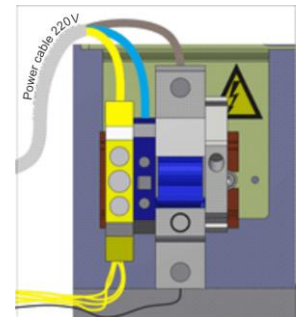
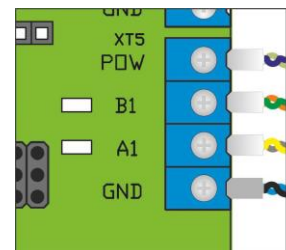

Fig.22– Connection of power supply cable
Fig.23 – Connection the communication cable with control panel to terminals
- 6 install a reader if needed (see Fig.23);
- a) Power supply cable ~220 V to be connected (Fig.22):
- Neutral (N) to be connected to terminal ~220V(N);
- Earth (PE) to be connected to earthing terminal (PE).
- b) Control desk link cable to be connected to terminals (Fig.23):
- d) Proximity card readers to be installed, if access control system (ACS) is available (Fig.23).